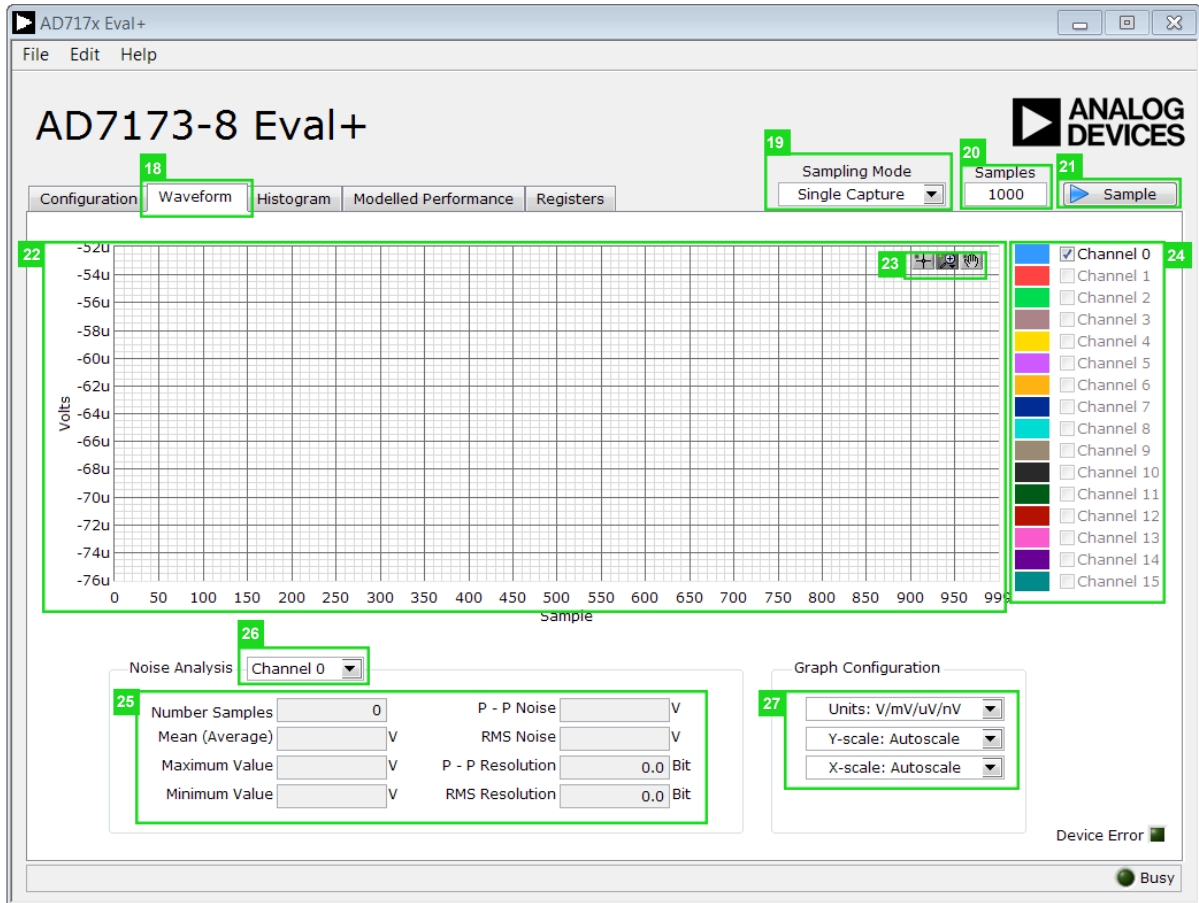

Figure 18. **Waveform** Tab of the AD7173-8 Evaluation Software
Figure 18 shows the **Waveform** tab of the AD717x Eval+ software.
**Sample (21)**
Click the **Sample** button to start gathering ADC results. Results appear in the waveform graph (22). See Figure 18.
The data waveform graph shows each successive sample of the ADC output. Zoom in on the data using the control toolbar (labeled 23 in Figure 18). Click the x-axis and y-axis to change the scales on the graph.